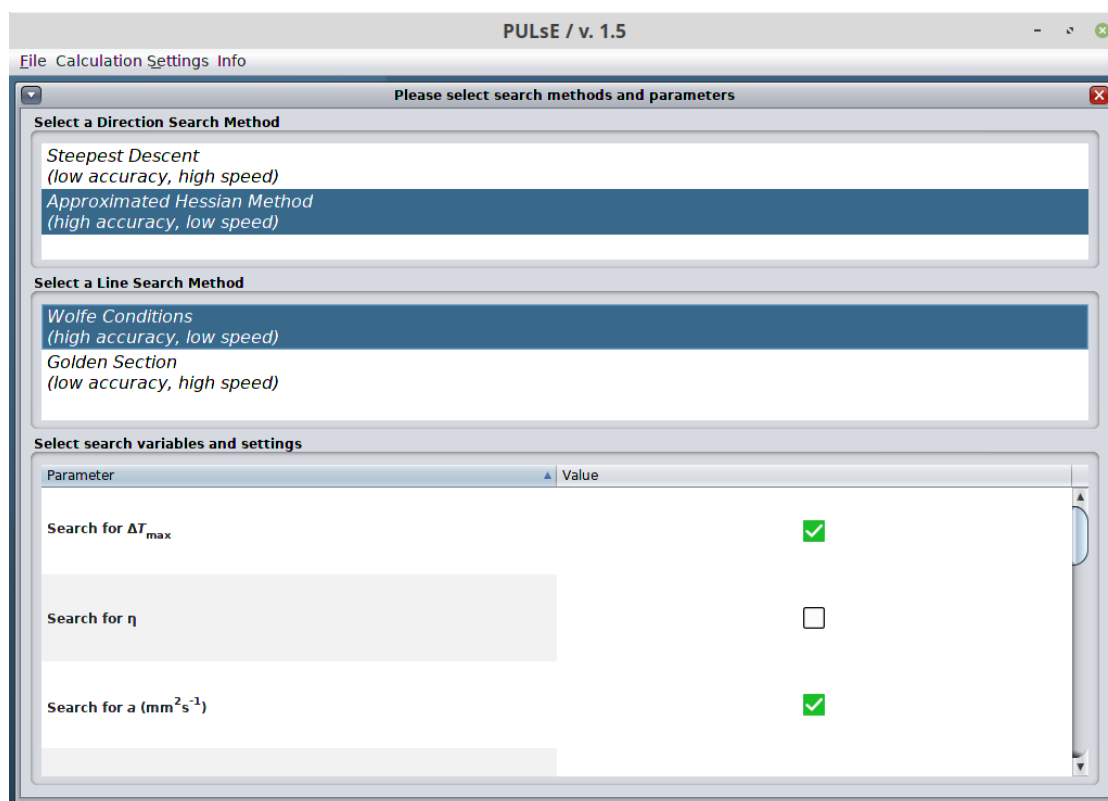

Figure 8: Search settings view
- This will show up an internal frame where the user is required to select the search algorithms, the dimensionality of the optimisation vector, and may modify other settings used in the parameter estimation algorithm (Fig. 8).